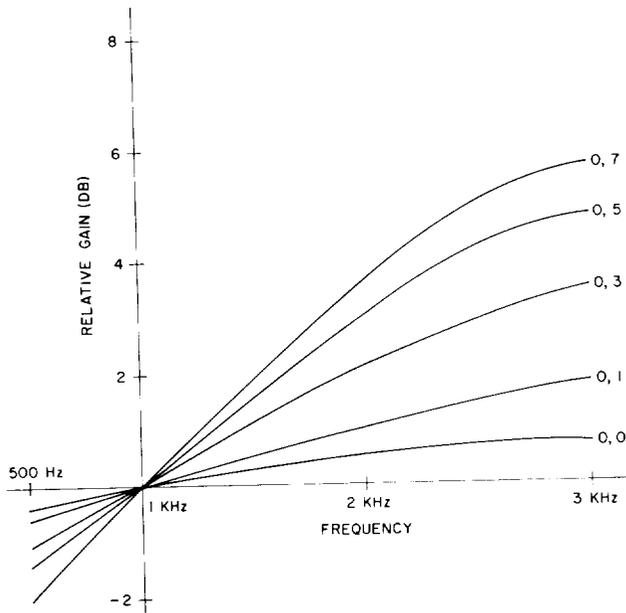
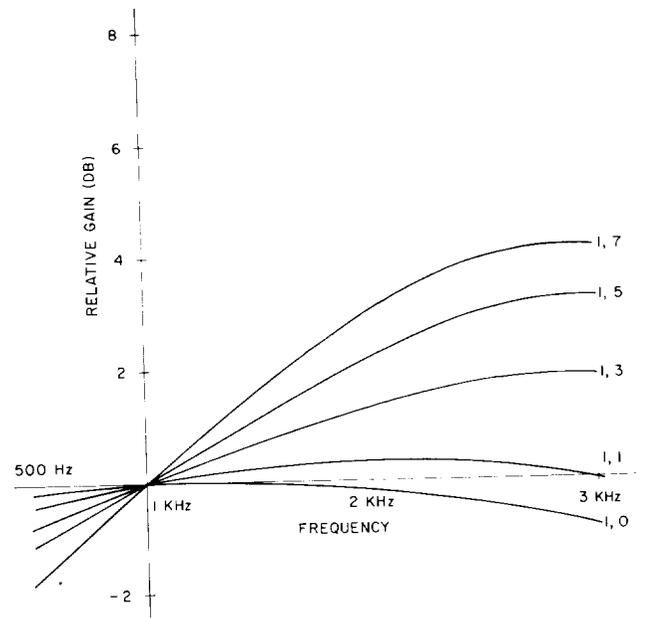

Fig. 3 — Relative Amplifier-Frequency Response of the J99343GE Amplifier Unit—A Switch = 0 (OFF)
Fig. 4 — Relative Amplifier-Frequency Response of the J99343GE Amplifier Unit—A Switch = 1 (OPERATED)
3.02 Figures 3 and 4 give the frequency response of the gain and equalizer unit. Figure 3 gives the response curves for various equalizer settings with the (A) switch set to 0. Figure 4 provides curves for the same equalizer settings with the (A) switch operated.